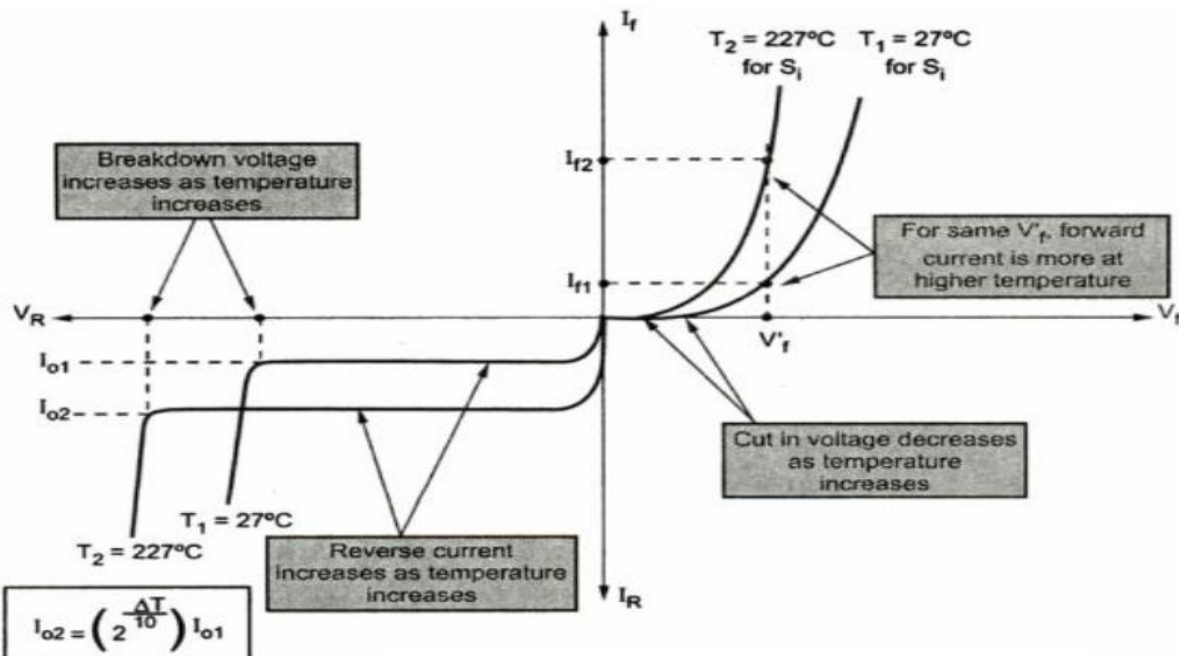

Fig. 1.12 Effect of temperature on PN Junction diode
- The temperature has following effects on the diode parameters and is shown in the fig. 1.12.